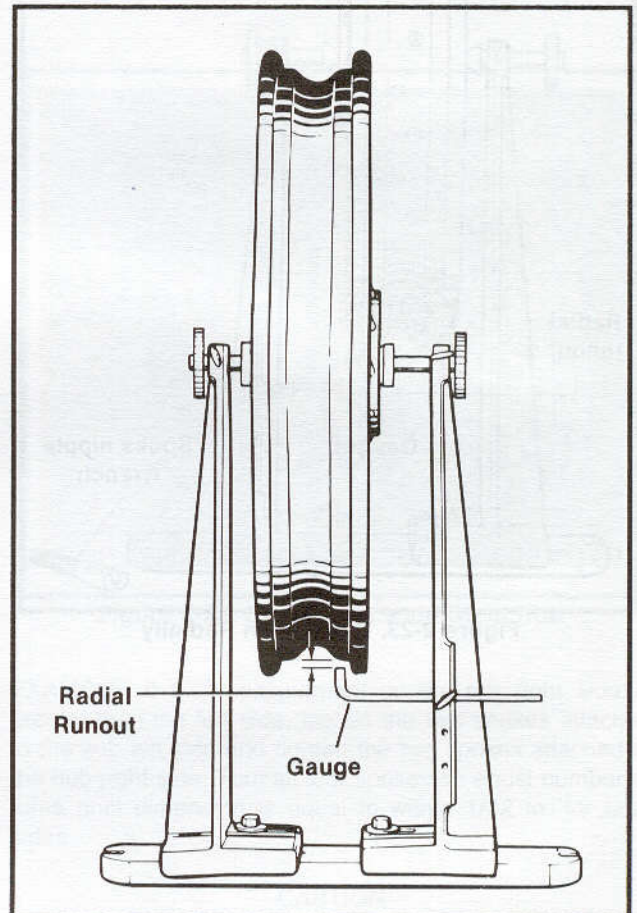

Figure 2-25. Checking Cast Rim Radial Runout
2. See Figure 2-25. Check for radial runout as shown. Replace the wheel if runout exceeds 0.030 in.